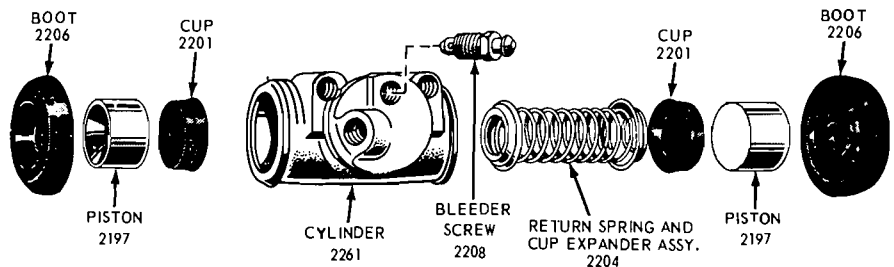

FIG. 19 Brake Wheel Cylinder—Typical
1. Remove the links and the rubber boots from the ends of the brake cylinder. Remove the pistons, cups, and return spring and expander assembly from the cylinder bore (Fig. 19).
3. Insert the return spring and expander assembly, cups, and pistons into their respective positions in the cylinder bore (Fig. 19). Place a boot over each end of the cylinder.